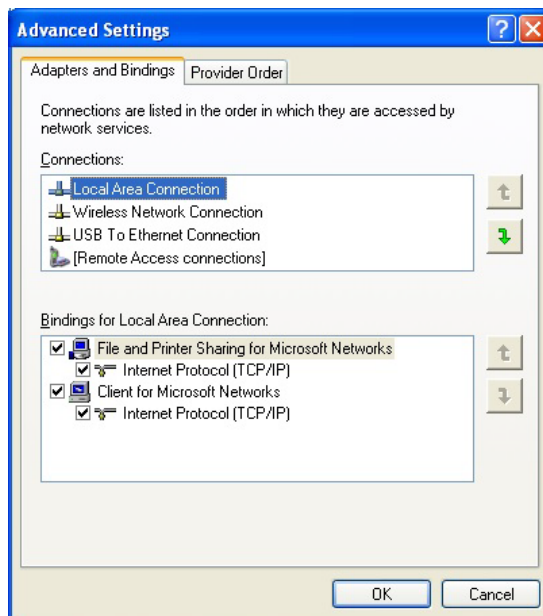

Figure 22 — Advanced settings
11. In the top **Network Connections** menu bar, click **Advanced > Advanced Settings**. See Figure 22.